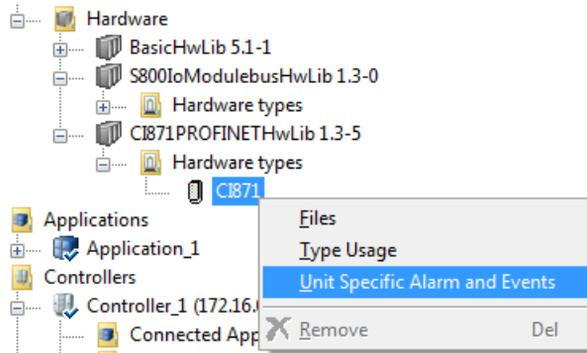

Figure 151. Accessing the Unit Specific Alarm and Events option
2. Right click the required hardware type and select **Unit Specific Alarm and Events** (see Figure 151).